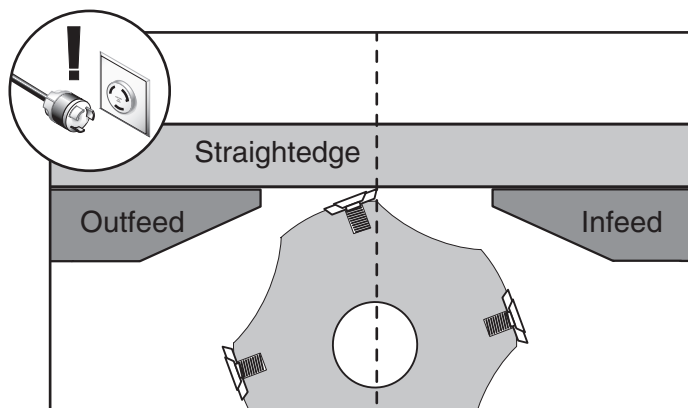

Figure 80. Infeed table even with outfeed table.
3. Use the straightedge to help adjust the infeed table exactly even with the outfeed table, as shown in **Figure 80**.